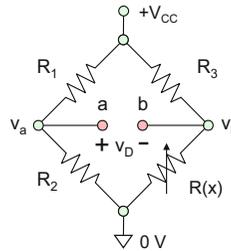
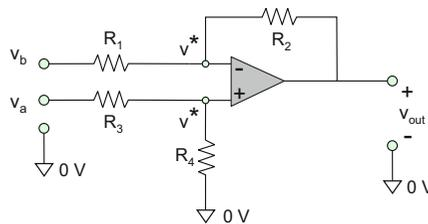

Fig. 5.28. A Wheatstone bridge sensor to be connected to an amplifier circuit.
Fig. 5.29. A difference amplifier.
Consider a sensing element that is a variable resistance. The sensor configuration is a Wheatstone bridge (Section 3.3) as seen in Fig. 5.28. Since the amplifier is powered by a dual supply with three terminals,  $\pm V_{CC}$ , and common (ground) port, the same power supply is connected to the bridge. We will use the positive rail and the ground rail in Fig. 5.28 since the sensor (e.g., the strain gauge) may require lower voltages than the amplifier chip itself.
can have any large positive value. For example, it is  $v_{\text{CC}}/2$  when all resistances are equal. Even if the bridge in Fig. 5.28 uses  $\pm V_{\text{CC}}$  power rails, it is hardly possible that the common-mode voltage is set to zero since absolutely identical resistors do not exist.
**Exercise 5.8:** In the Wheatstone bridge in Fig. 5.28, we assume  $R_2 = 1.1R_1$ ,  $R(x) = 1.1R_3$ , and  $V_{\text{CC}} = 6$  V. What are the differential and common-mode voltages?
The sensor in Fig. 5.28 is the *differential sensor* with *three* terminals: *a*, *b*, and ground. How do we amplify the differential voltage? Reviewing the inverting and non-inverting amplifier types reveals that they are not appropriate for this purpose: we simply do not have two input terminals to be connected to nodes *a* and *b* in Fig. 5.28. Only *one* input terminal referenced to common (ground) is available. Note that *single-ended sensors* with *two* terminals (plus and ground) indeed exist and may be used. In that case, inverting or non-inverting amplifiers will function well. However, the overall design accuracy may deteriorate compared to the differential design. Therefore, a new amplifier type with two input terminals should be introduced. It is the *difference amplifier* shown in Fig. 5.29.
Both inputs to this amplifier are referenced to common (ground) port. First, we see that the difference amplifier is an inverting amplifier with the negative feedback loop. However, the second input signal is now added to its positive terminal through a voltage divider. The analysis of this amplifier type is done using two summing-point constraints. A shortcut is to recognize, with the help of the first SPC, that in Fig. 5.29 we have two voltage dividers: one between resistances  $R_1, R_2$  and another between resistances  $R_3, R_4$ . Therefore, for the voltage at node (\*), one has, using the first voltage divider,
Equation (5.53) is a simple, yet highly useful result for amplifier circuit design. Namely, once the amplifier in Fig. 5.29 is connected to the sensor in Fig. 5.28, the differential voltage  $v_D = v_a - v_b$  is amplified with the gain of  $R_2/R_1$  (the *differential amplifier circuit gain*). At the same time, the undesired common-mode voltage  $v_{\text{CM}} = 0.5(v_a + v_b)$  is completely *rejected*, i.e., amplified with a gain of 0, no matter what specific values the input voltages have versus ground. In other words, the *common-mode amplifier circuit gain* is zero. Note that the ratio of two gains (*differential gain* versus *common-mode gain*) is an important characteristic of the difference-amplifier circuit. It is called the *common-mode rejection ratio* (CMRR). In our case, this ratio is clearly infinity. Unfortunately, in reality, this value is finite though quite large. One obvious reason is a possible mismatch in resistance ratios in Eq. (5.52d), which will not allow us to obtain Eq. (5.53) exactly. A certain portion of  $v_{\text{CM}} = 0.5(v_a + v_b)$  will be present at the output.